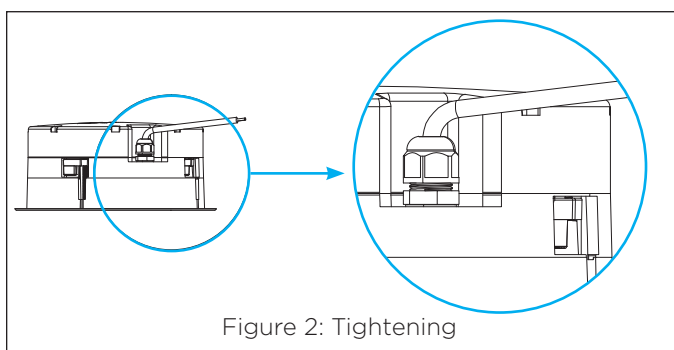

Figure 2: Tightening
- 7b. Use weatherproof wire nuts or lever-latch wire connectors to join the “+” to “+” and “-” to “-” from the speaker to the speaker wire leads that have been run to the location (see Figure 2).